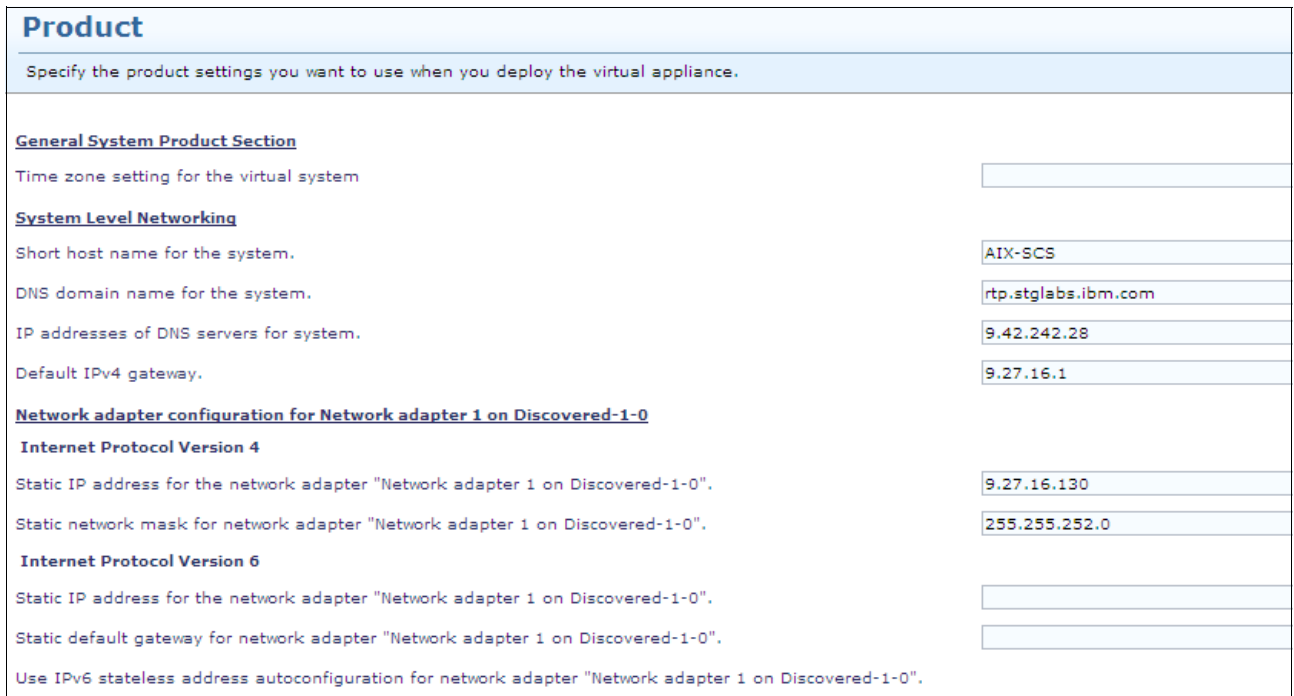

Figure 10-155 IP address configuration window
7. Enter the IP address information as shown in Figure 10-155 and click **Next**.